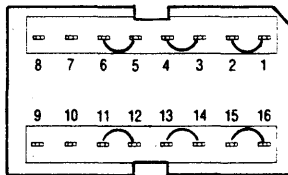

Figure 3-15
2. Remove the Configuration Header, board location 3A, and replace it with a 16-pin header wired as shown in Figure 3-15.